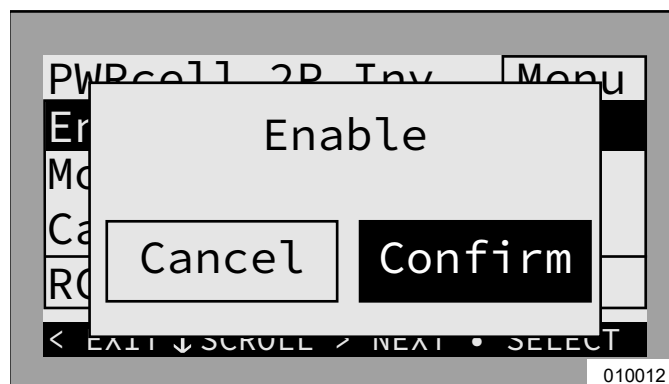

Figure 6-9. Enabling Inverter (3 of 4)
5. See Figure 6-9. Arrow right and press center button to Confirm.